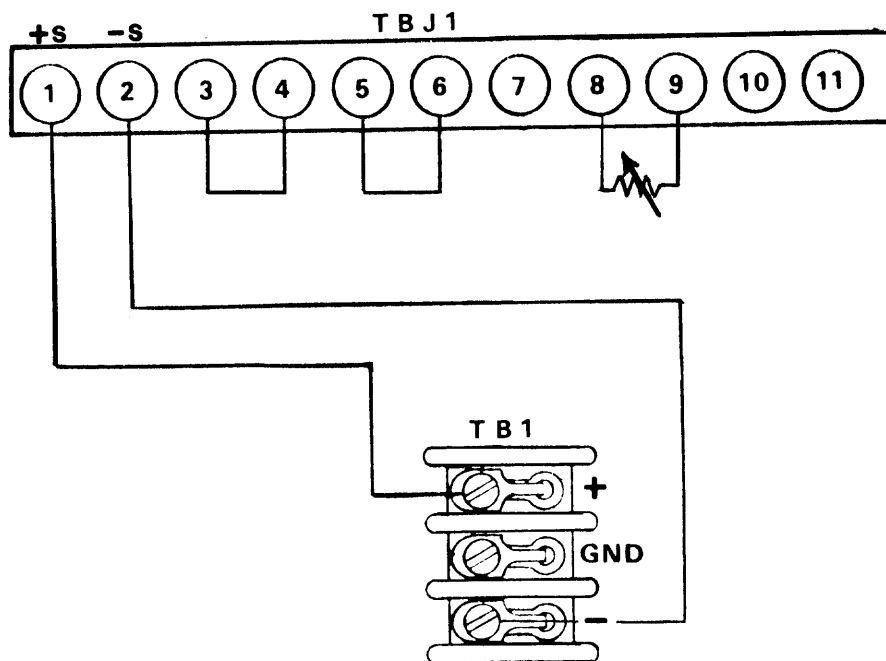

Figure 3-4
3.3.1 Resistance Programming (Figure 3-4)